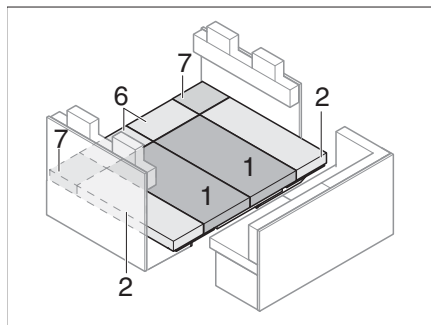

Fig. 179 After conversion
- Lay on the seat, backrest and additional cushions as shown in Fig. 179.